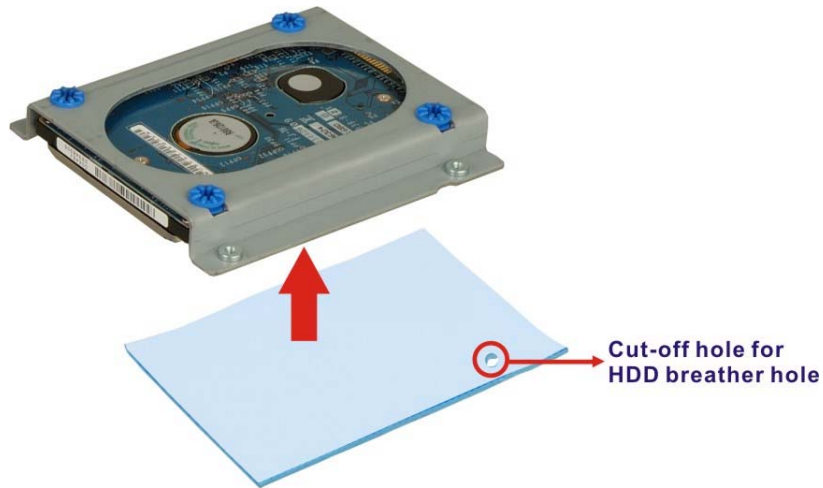

Figure 4-5: HDD Thermal Pad
- Step 7:** Adhere the thermal pad to the HDD. Make sure there is no obstacle covering the breather hole (**Figure 4-5**).